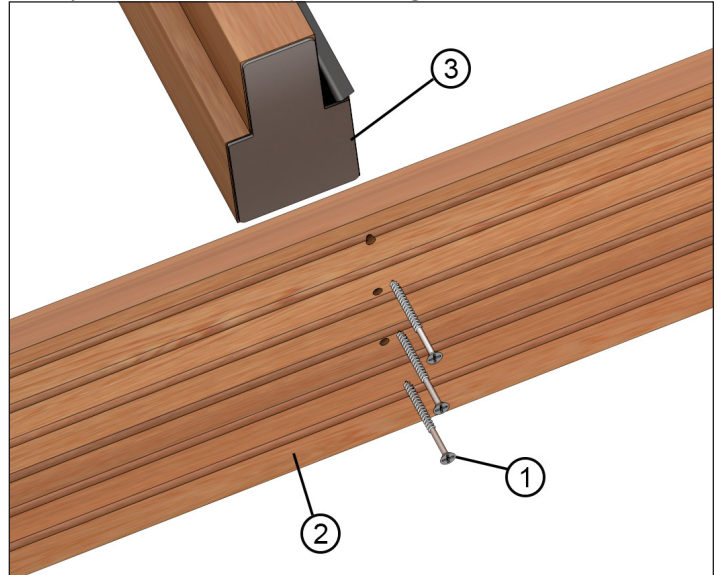

Figure 2
4. Note: This step for Reserve Wood Entry Door only. Fasten uni-frame to head jamb by applying screws through the top of head jamb and into mull post. See figure 2.